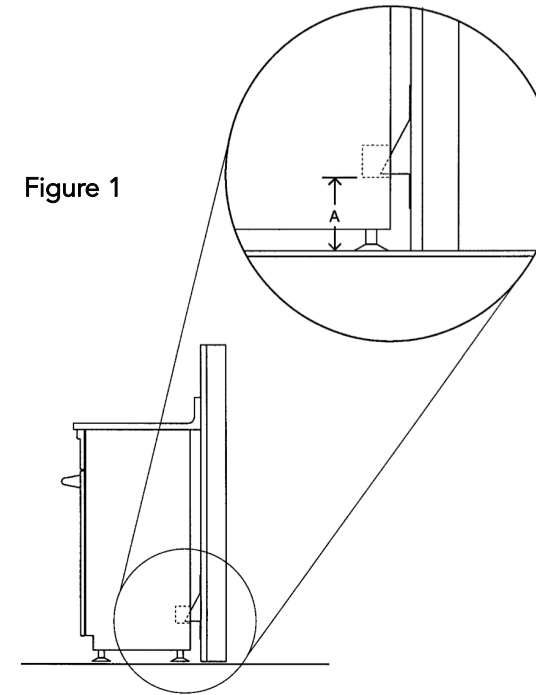

Figure 1
1. After leveling legs, measure from the floor to the top of the compactor base plate from the backside. See Figure 1. This "A" measurement will determine the height needed for the bracket.